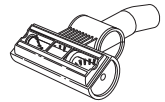

Fig. 26
- 3 Turn the power brush over to inspect the rotating brush and cut away any build-up of hair or string wrapped around the rotating bristle brush with scissors. (Fig. 26)